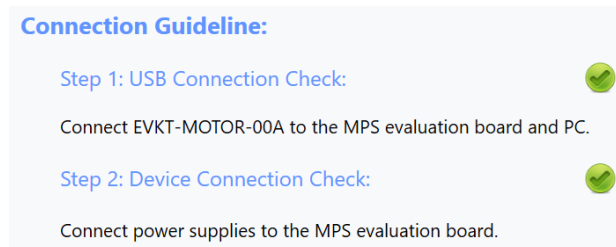

Figure 4: Successful Connection
- a. If USB and device connections are successful, the GUI's home page should display two green lights (see Figure 4).